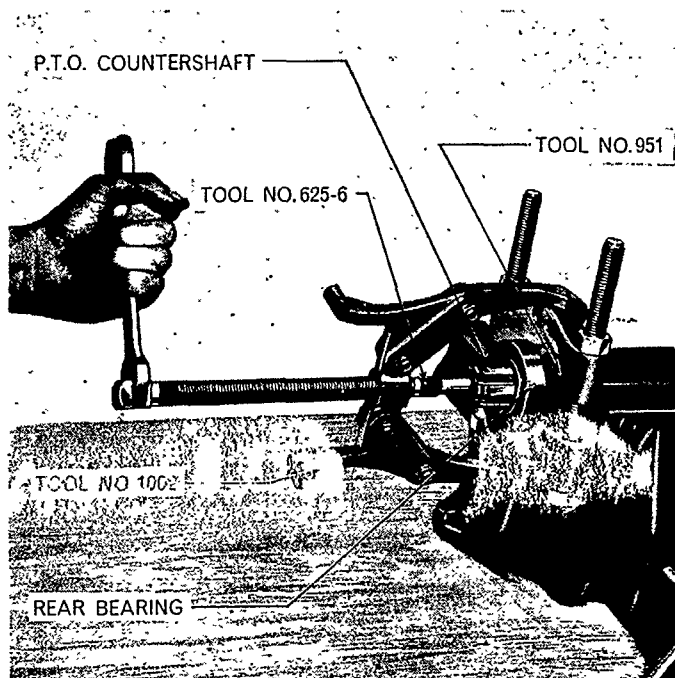

Figure 30
4. Remove the rear bearing, Figure 30, using Tools Nos. 1002, 951 and 625-6 (625-2 for Major-Independent P.T.O.).